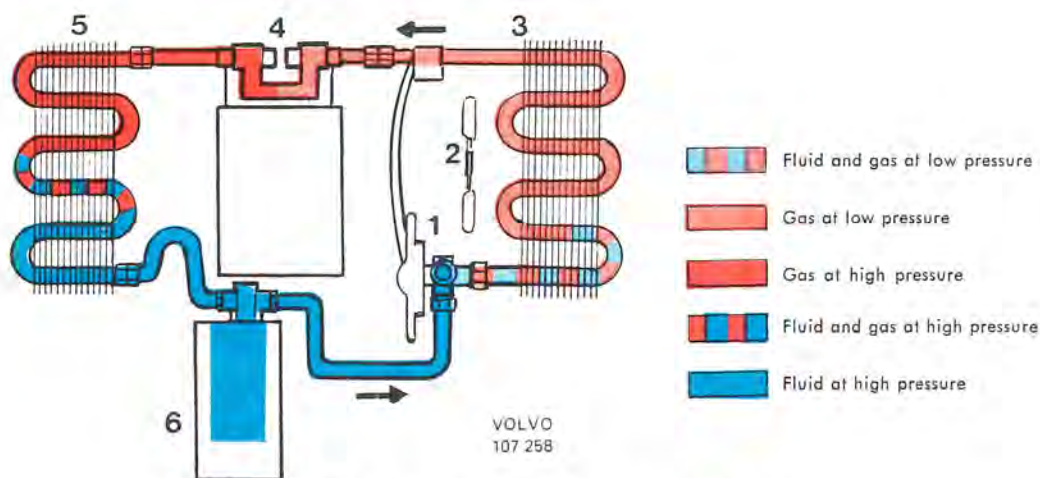

Fig. 8-39. Refrigerant circulation in air conditioning system
In order to explain the cooling process that takes place, it is suitable to start off with the thermostatic expansion valve, usually called the TEV (1, Fig. 8-39). Before the TEV, the refrigerant is in liquid form and at high pressure. When it flows into the inlet pipe of the evaporator, the temperature of the refrigerant immediately drops and is converted to part vapour, part fluid. Since the freezing point of the refrigerant is -32°C (-26°F) at normal air pressure, it starts to boil and changes to vapour in the evaporator coil (3), while it absorbs heat from the warm air which the fan motor (2) blows round the pipeline. Due to the fact that heat is absorbed from the air, it becomes colder. It is this cold air which is blown out through the air ducts into the compartment. In the evaporator coil, the latent heat has caused the refrigerant to convert to a gaseous form, without any change in temperature. Before the refrigerant reaches the end of the coil, it absorbs, however, more heat and the gas temperature rises.